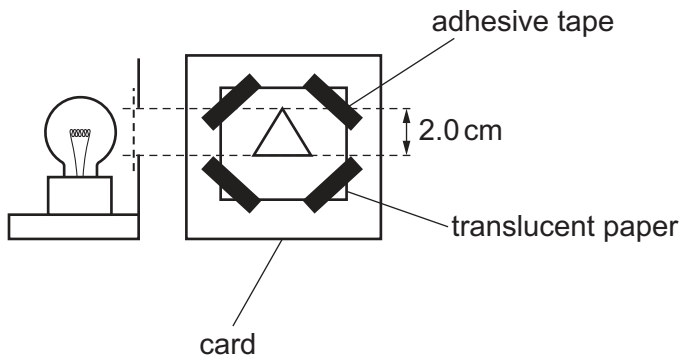

Fig. 3.1
- (iii) Illuminated object consisting of a rigid card with a triangular hole of height 2.0 cm. See Fig. 3.1.